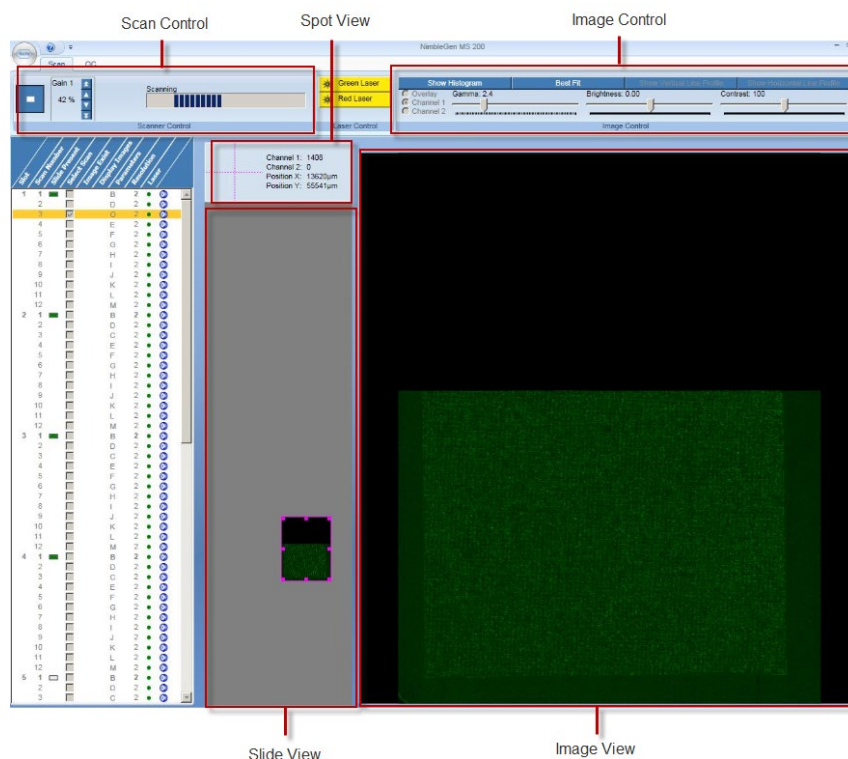

Figure 11: Example of a Run Time Window
3. Once scanning begins, the Parameter Control and Area Definition Control pane closes. The Image View, Slide View, and Spot View opens (Figure 11: Example of a Run Time Window)